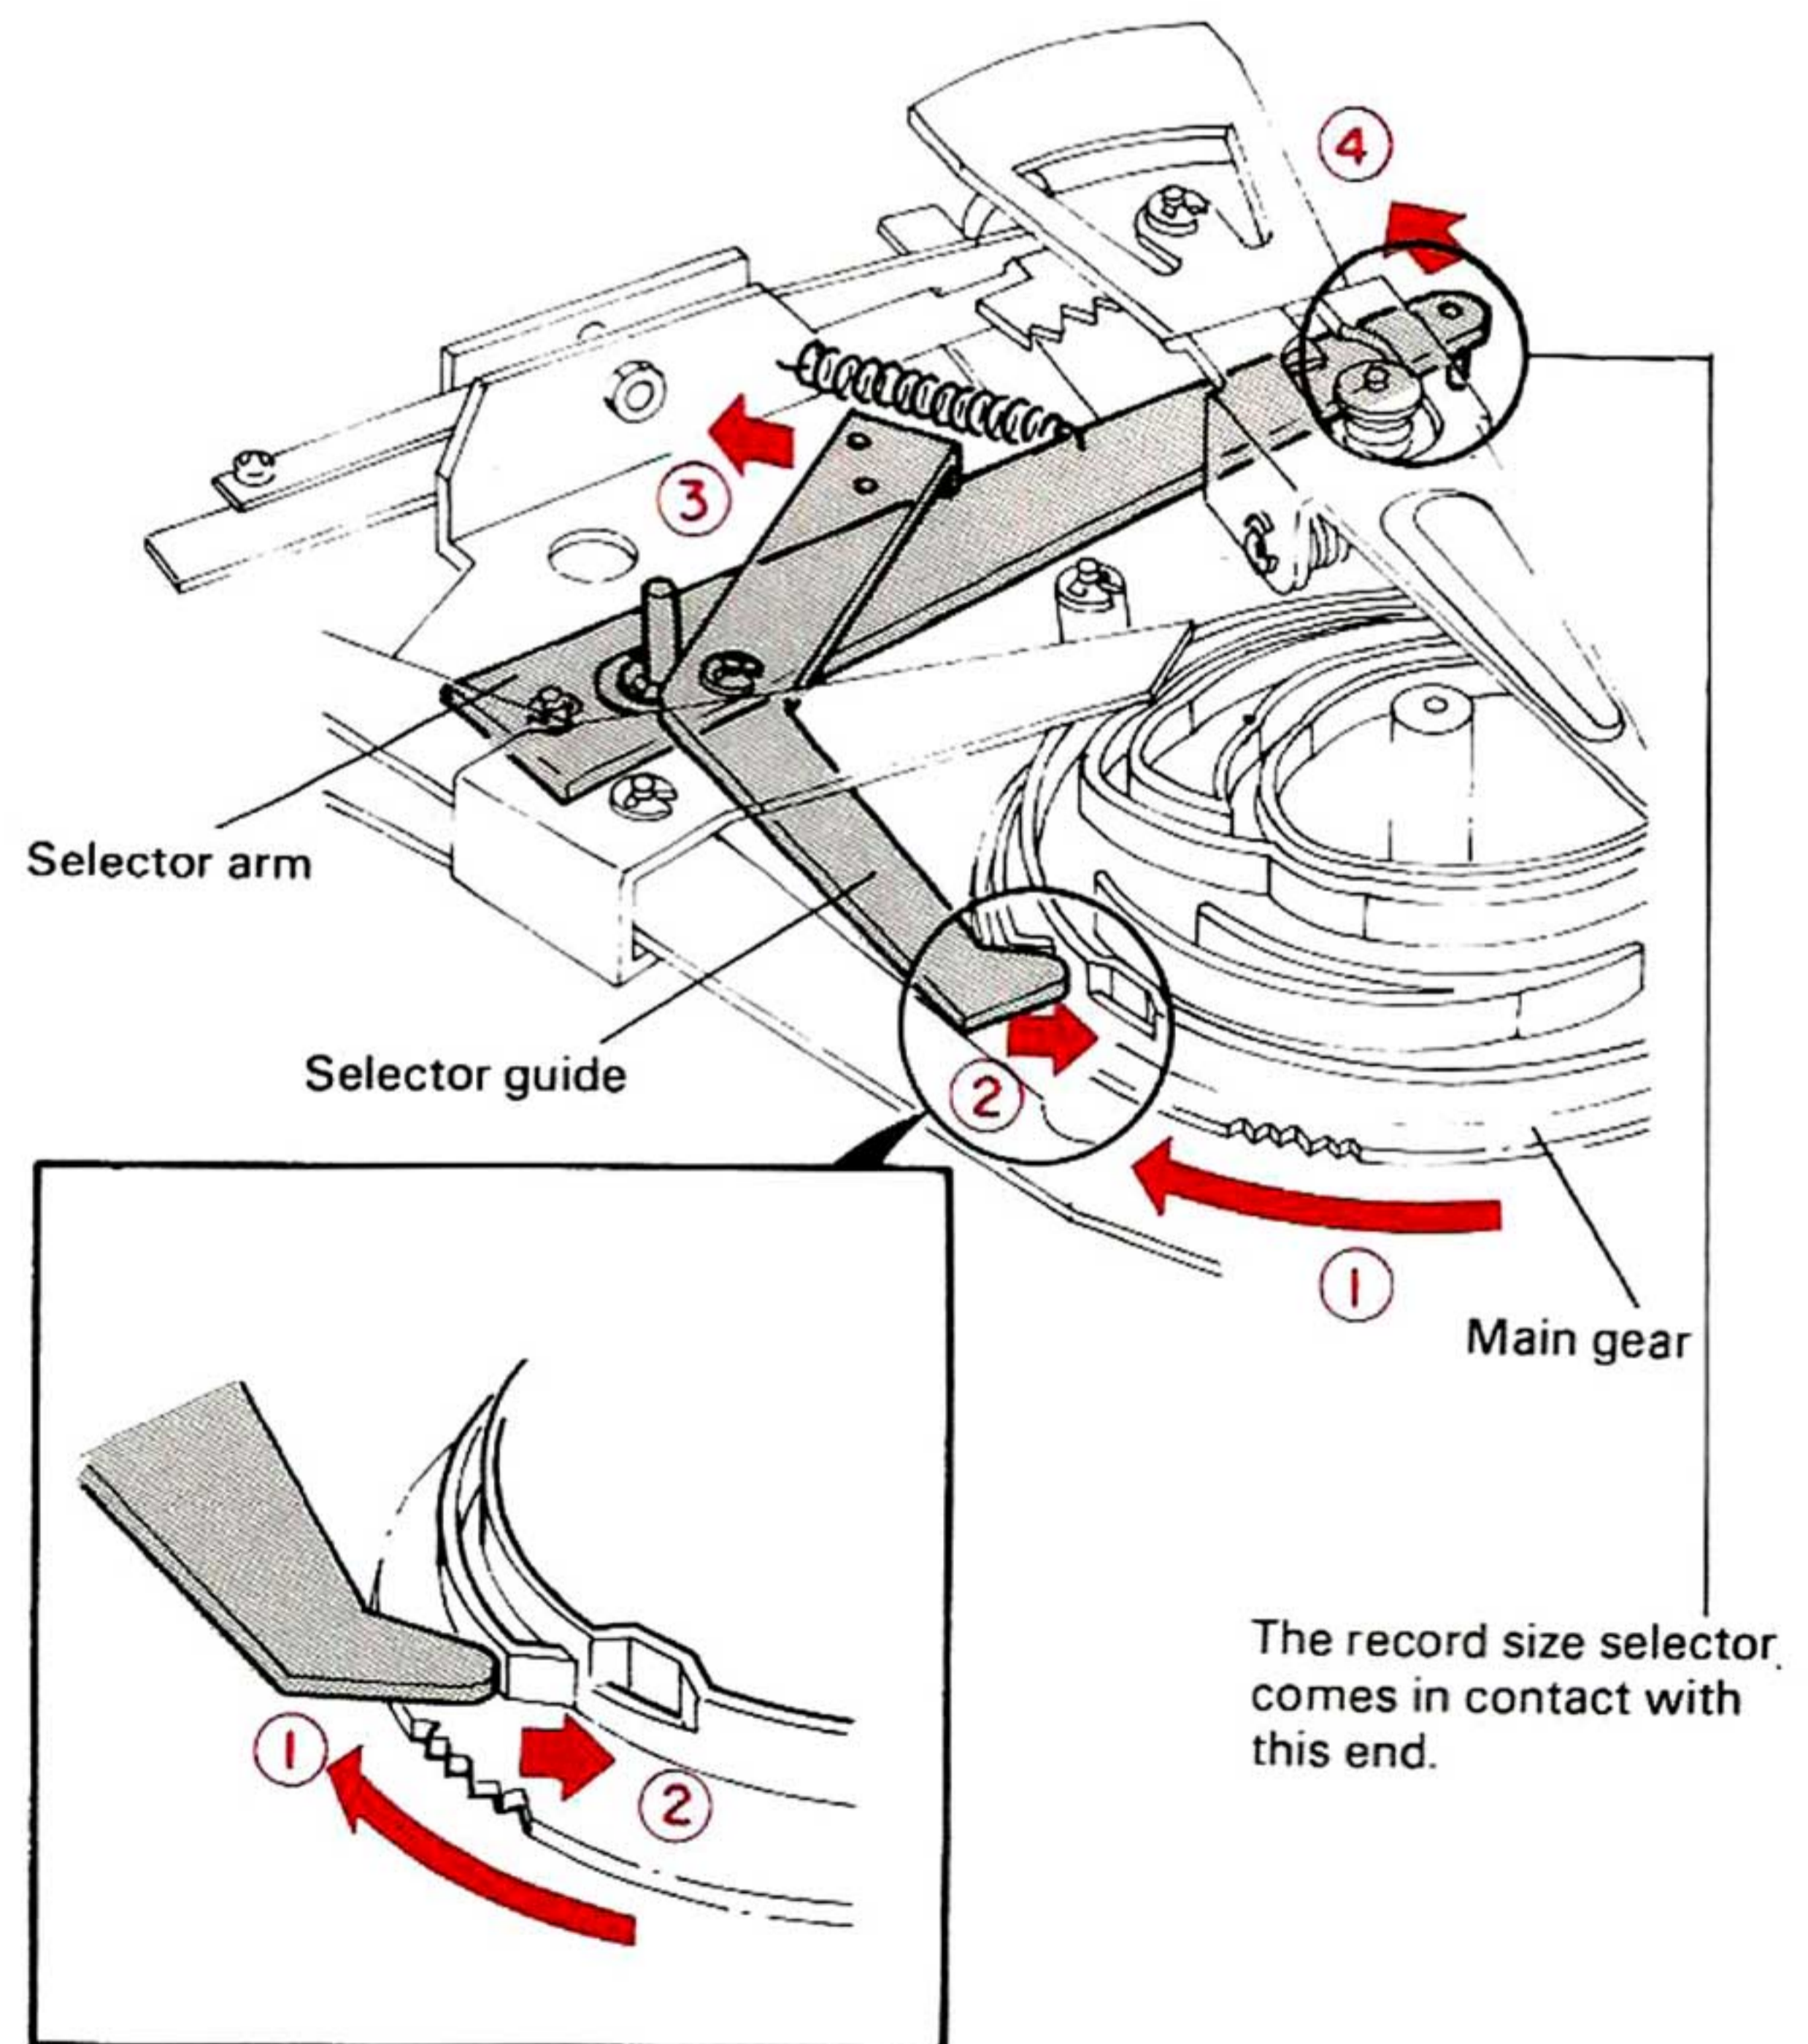

Fig. 4-1 Selector Arm and Selector Guide
When rotation plate 1 enters the inner groove of the main gear, the end of the selector guide comes to the part where the radius of the main gear becomes smaller, letting the end move inward (in direction ②). The other end of the selector guide shifts in direction ③ and the selector arm is drawn by the spring in direction ④. The record size selector which is set by the selector knob on the cabinet comes into contact with the end of the selector arm to determine the position where the toner arm is to be lowered. (Fig. 4-1.)